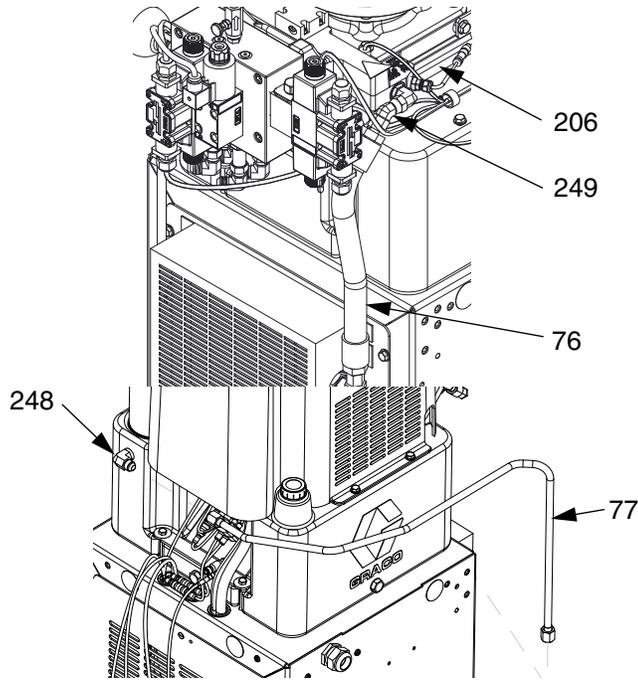

FIG. 28: Heat Exchanger Inlet and Outlet Hoses
8. Connect heat exchanger inlet hose (76) and fitting to elbow fitting (249) on hydraulic housing (206). Connect heat exchanger outlet hose (77) and fitting to elbow fitting (248). See FIG. 28 on page 30.